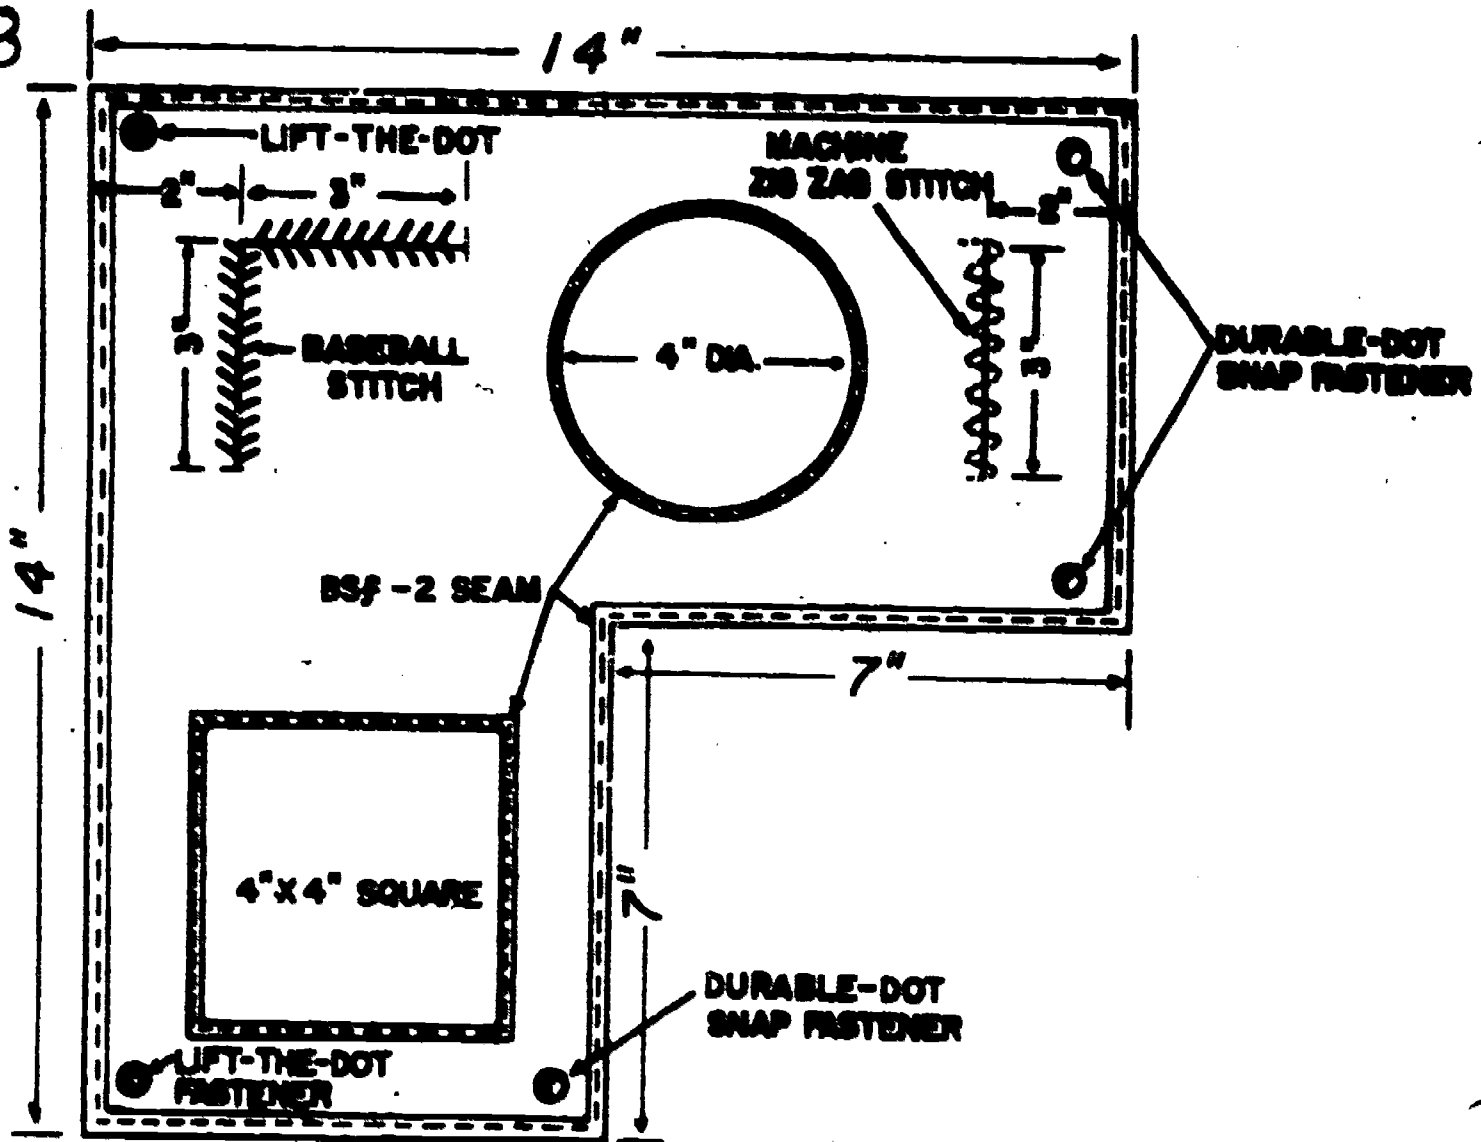

Figure 8. Soundproof Panel.
1. Using a template similar in size and shape to the one shown in figure 8, lay out and cut a section from the aircraft soundproofing material. If templates are not available, use direct measurements to lay out the panel.
2. Mark the soundproofing material to include all cuts and holes as shown in figure 8.
1. Examine the "L" shaped slit in the soundproofing at the location shown in figure 8.